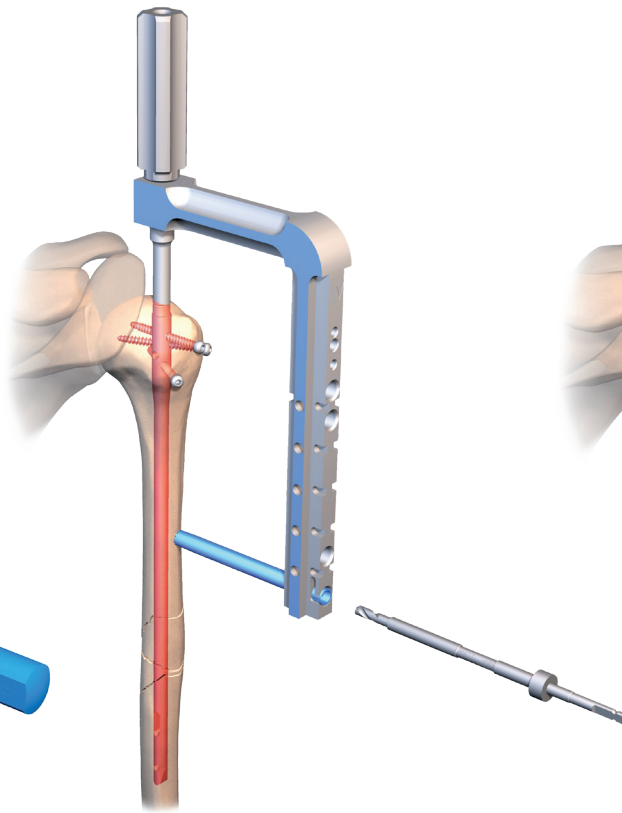

fig. 12
· Drill the outer cortex with the grey drill bit with stop (**ref. 266 428**) (**fig.12**).